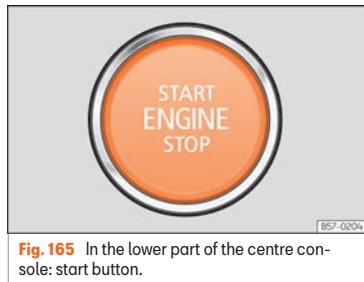

Fig. 165 In the lower part of the centre console: start button.
When entering the vehicle, the start button »» Fig. 165 flashes to draw attention to it.
- Press the starter button »» Fig. 165; do not press the accelerator. There needs to be a valid key inside the vehicle for the engine to start. After starting the engine, the lighting of
- Briefly press the start-up button >>> **Fig. 165**.